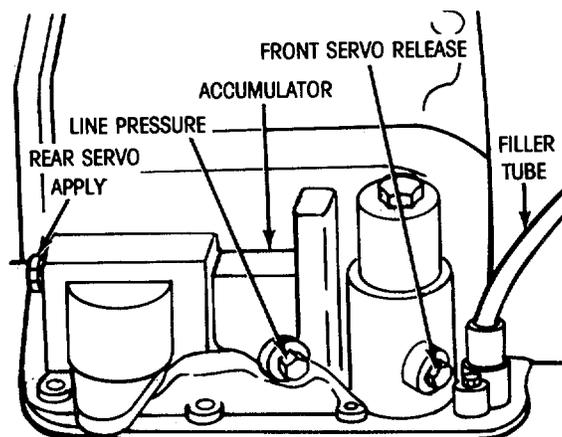

Figure 5-18. Pressure Test Locations (Right Side of Transmission)
- (b) Connect two 0-100 psi pressure gages to pressure take-off-points at the side of the accumulator and at the front servo release (figure 5-18).